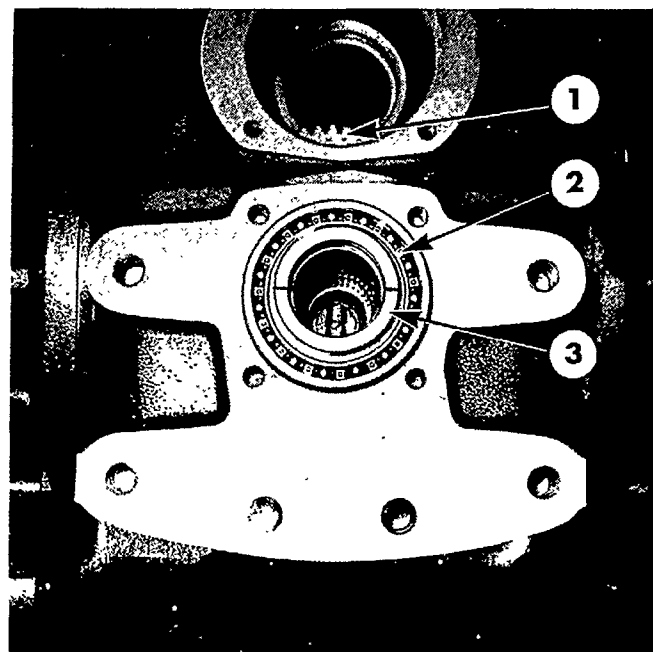

Figure 16
6. Hold the P.T.O. output shaft driven gears in position then remove the output shaft sleeve, bearing, seal and retain the thrust washer, Figure 16.